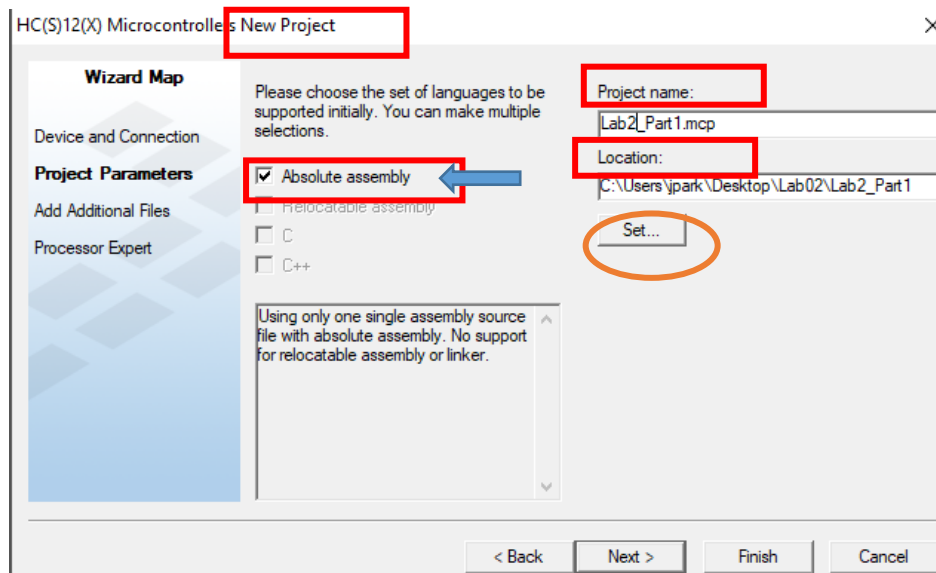

Figure 2.
4. The second **New Project** window opens up, as shown in Figure 2. Use the **SET...** button to point to folder Lab02 in the **Location** field. Then, in the **Project name** field, type your (arbitrary but in general meaningful) project name, say, **Lab2\_part1.mcp**. Note that your project name is appended to the **Location** field.
5. Uncheck all the checkboxes and then check the **Absolute assembly** checkbox as shown in Figure 2. Finally, click on **Finish** (NOT Next!!).